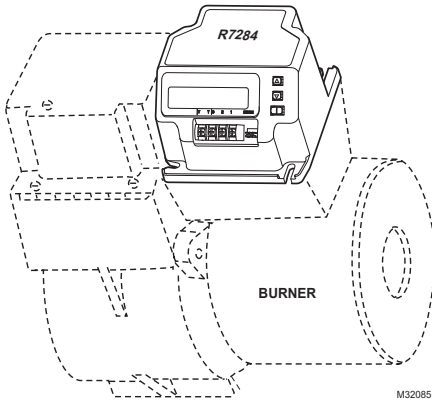

Fig. 1. Mounting R7284 on junction box.
1. Mount on a 4 in. by 4 in. junction box, directly on the main burner, or inside the appliance cabinet. In replacement applications, mount in the same location as the old control. See Fig. 1. Make sure the operating temperatures are within the ambient temperature range (see Specifications section).